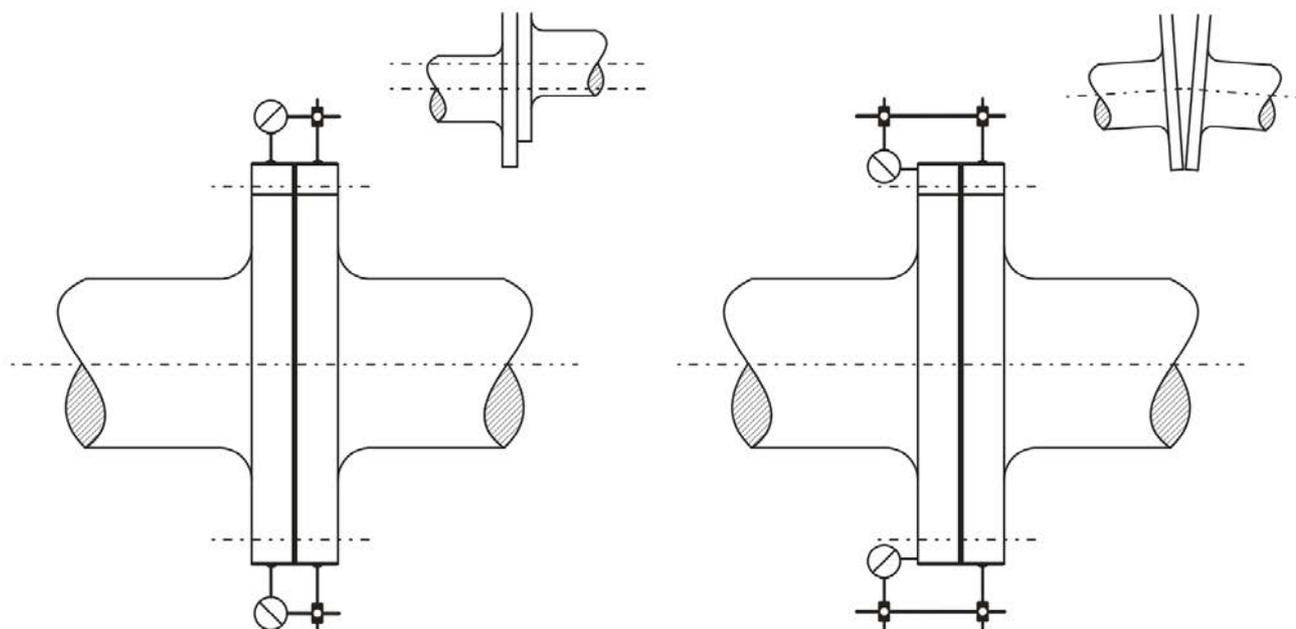

FIGURE 22. ALIGNMENT USING DIAL GAUGES - 1: RADIAL ALIGNMENT, 2: ANGULAR ALIGNMENT
4. If dial gauges are used, their scale must be adjusted so that about half the scale is available in both directions. Check the strength of the dial gauge holder to prevent possible bending, see Figure 22 on page 54.